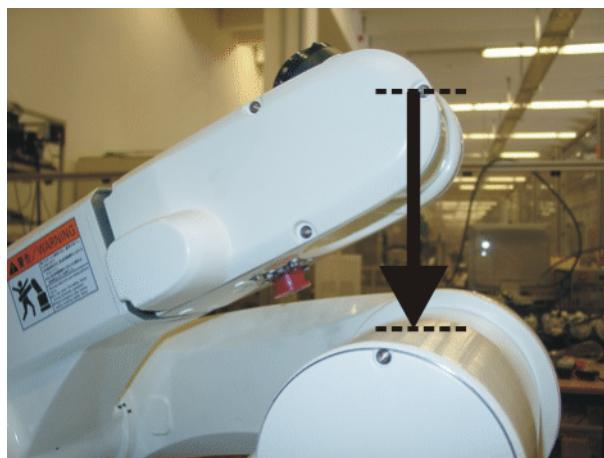

Fig. 11-37: Pre-mastering position A3
- Move A3 into the following position: the distance (measured vertically) between the center of the screw and the highest point on A2 must be **135 mm** (>>> Fig. 11-37).